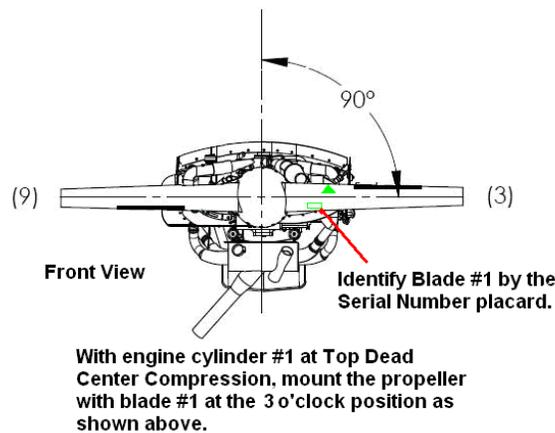

Figure 61-3 Second MT Propeller Position
2. If installing an MT Propeller, torque propeller stop nuts (6) in accordance with Section 4.5 and 4.6.1 of MT Propeller Maintenance Manual E-112 Issue 14 (03/19/2009) or later approved issue. If installing a Sensenich propeller, torque the stop nuts (6) in accordance the Sensenich Propeller Manual, DOC# WOOD-CF-REV-A DOC 5-20-04.
3. Install the spinner. When installing the spinner, match the number one (1) marked on the inside of the spinner with the #1 propeller blade, and the number one (1) stamped in the spinner bulkhead flange.
6. If the vibration is equal to or greater than previously recorded, remove the spinner, the propeller and the spinner bulkhead and re-install the entire assembly 180° from previous. In other words, with the #1 blade at the 3 o'clock position as viewed from the front, see Figure 61-3.